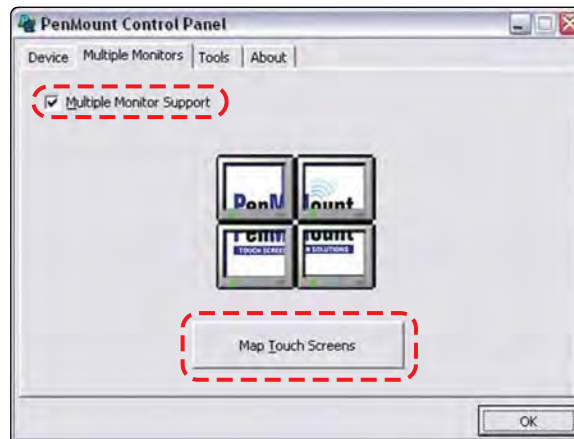

Figure 15-5 Sample Multiple Monitors tab
4. With the **Multiple Monitor Support** box checked, select the **Map Touch Screens** button (Figure 15-5).